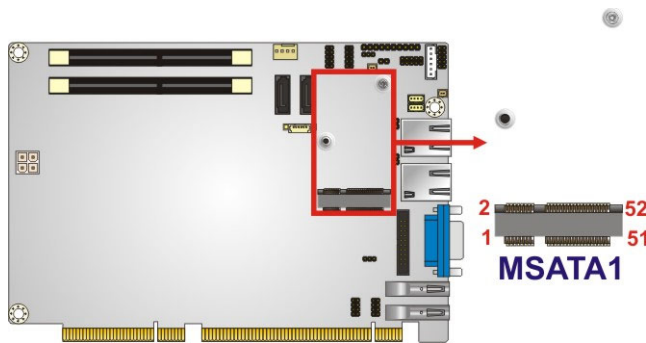

Figure 3-17: PCIe Mini Slot Location
- CN Location:** See **Figure 3-17**